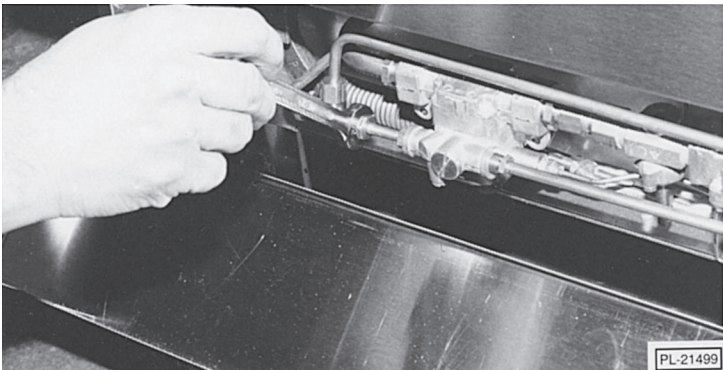

Fig. 69
3. Disconnect pilot tubing at tee fitting (Fig. 69).